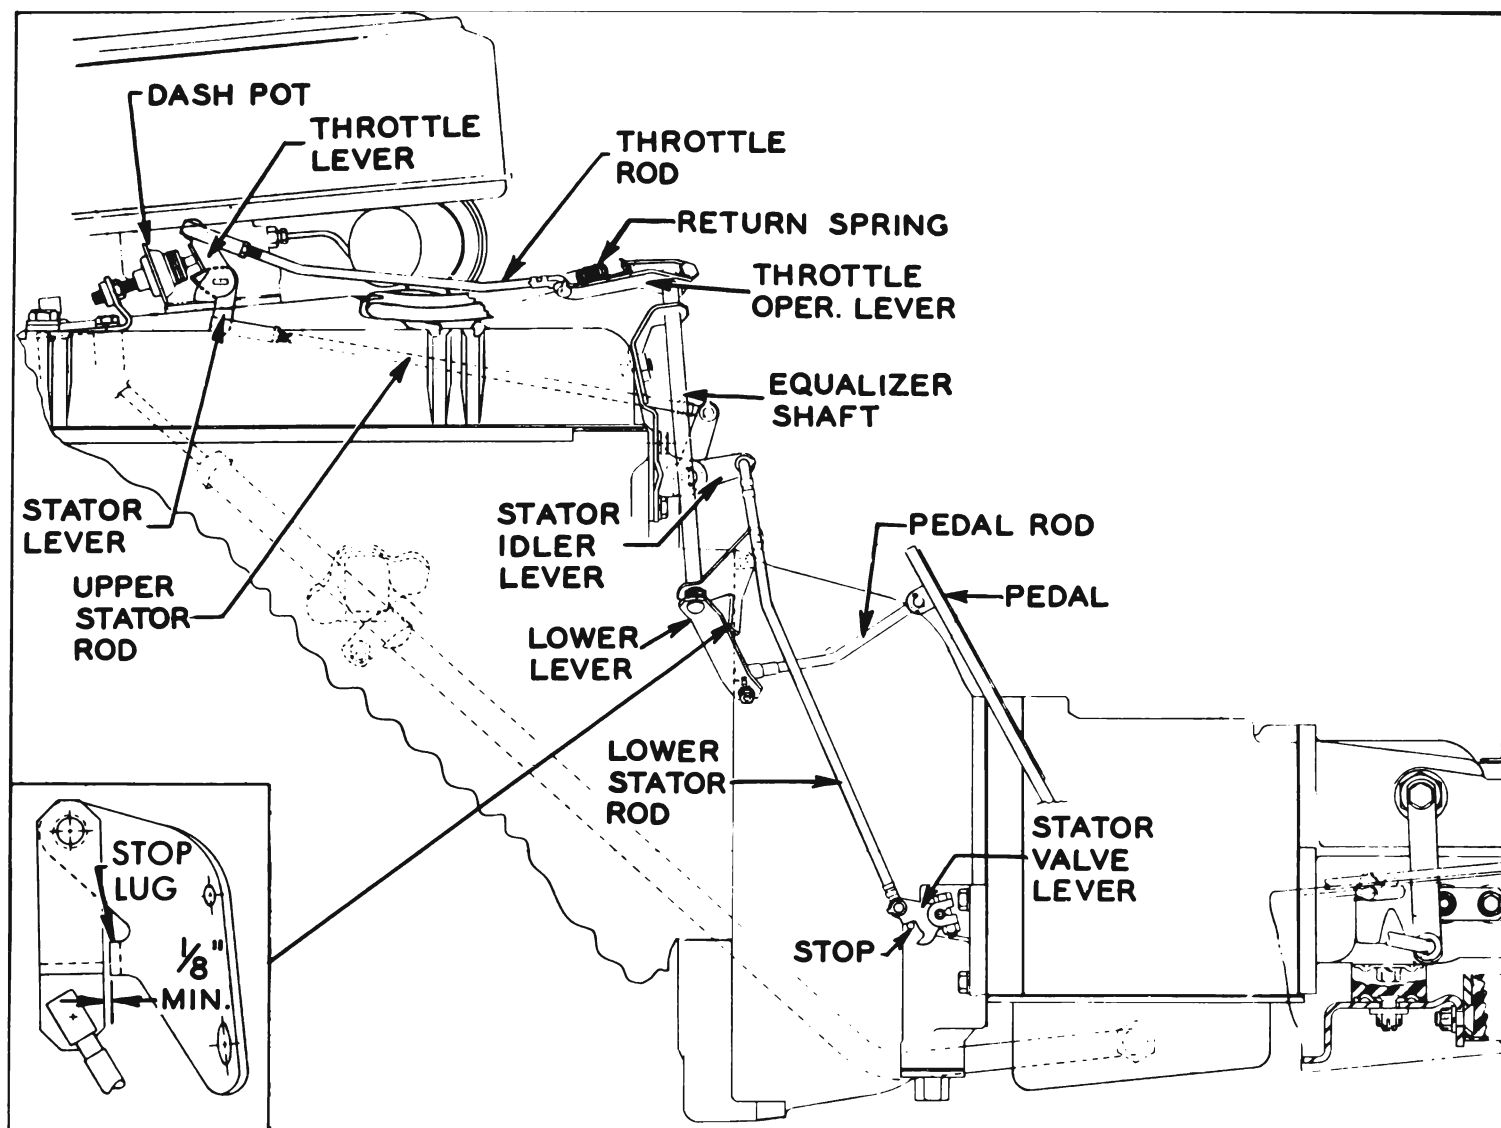

Figure 3-11—Throttle and Stator Control Linkage (Variable Pitch Dynaflo)
6. Disconnect throttle rod from throttle operating lever on equalizer shaft. See figure 3-11.
11. With throttle closed to hot idle position, check clearance between equalizer shaft lower lever and stop lug on the shaft-to-cowl mounting bracket. A minimum clearance of  $\frac{1}{8}$ " must exist at this point. See figure 3-11.
1. With throttle held in *wide open position*, adjust upper stator rod so that ball joint at forward end will just slip freely in stator lever on carburetor with stator rod pulled forward. See figure 3-11.